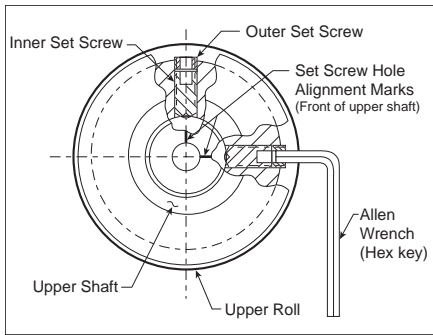

Figure 10
11. Withdraw the allen wrench to the position shown in Figure 10 above. Tighten the outer set screw securely.